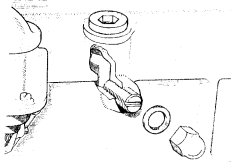

Fig. 4 - Oil pump cap nut and dowel screw
3. Remove the cap nut and dowel screw shown in Fig. 4 and withdraw the oil pump and strainer.